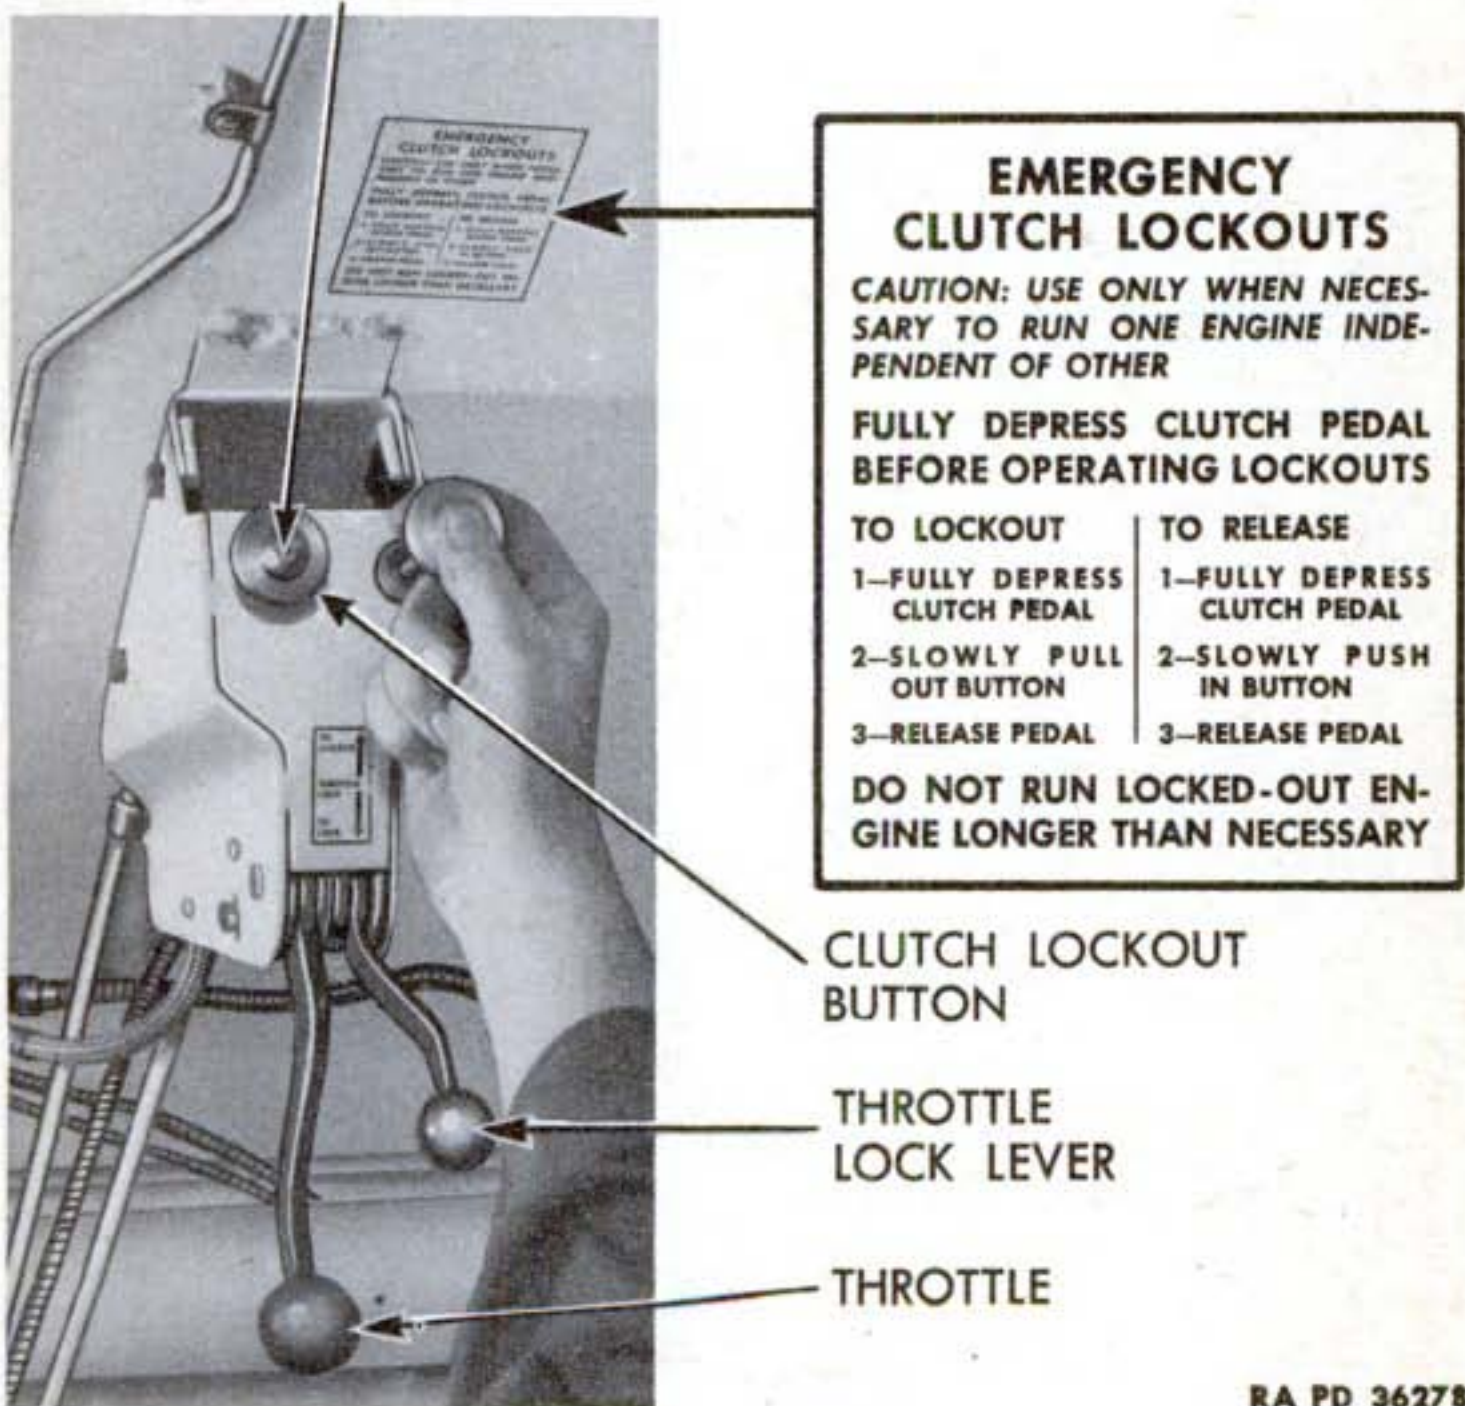

Figure 17—Clutch Lockouts
e. **Clutch Lockouts.** The two clutch lockout buttons are mounted in the throttle bracket (fig. 17) and are used to lock the two clutches out of engagement. This permits starting one engine at a time without holding clutch pedal down or, in an emergency, using one engine to operate the vehicle. To lock out the clutches, hold clutch pedal down, pull out clutch lockout and release clutch pedal. To release the clutch lockouts, hold clutch pedal down, push in on latch button in center of clutch lockout, and push clutch lockout all the way in.
- (6) Lock out both clutches (fig. 17).
- (7) Release throttle lever lock and push hand throttle (fig. 17) half-way forward, then return to "IDLING" position. As the throttle is moved out of "NO FUEL" position, the low oil pressure red warning lights will light. If they do not light, determine the cause.
- (8) Start one engine at a time by pressing starter button.